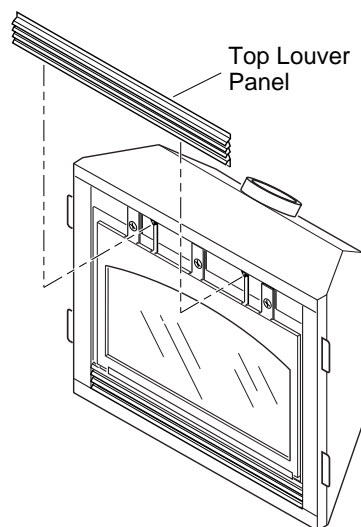

Figure 40 - Removing Top Louver Panel
1. Remove the upper louver panel by lifting upward and out (see Figure 40).